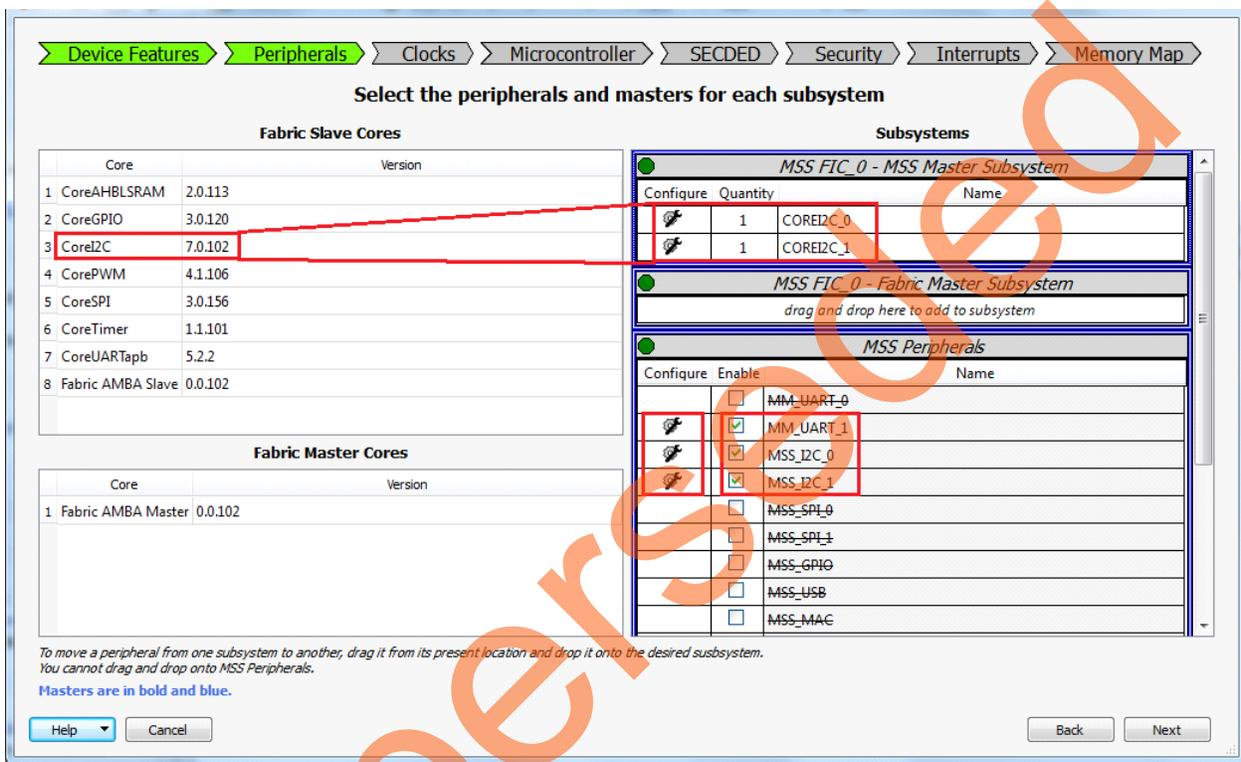

Figure 8 • System Builder - Peripherals Tab
1. The **System Builder** window is displayed with **Device Features** tab by default. Click **Next**, the **System Builder - Peripherals** tab is displayed. Drag two instances of CoreI2C and drop on to the **MSS FIC_0 - MSS Master Subsystem**. **Figure 8** shows the **Peripherals** tab.
3. The design uses MMUART and I2C MSS peripherals. Select **MM_UART_1**, **MSS_I2C_0**, **MSS_I2C_1** and uncheck all other peripherals (refer Figure 8).